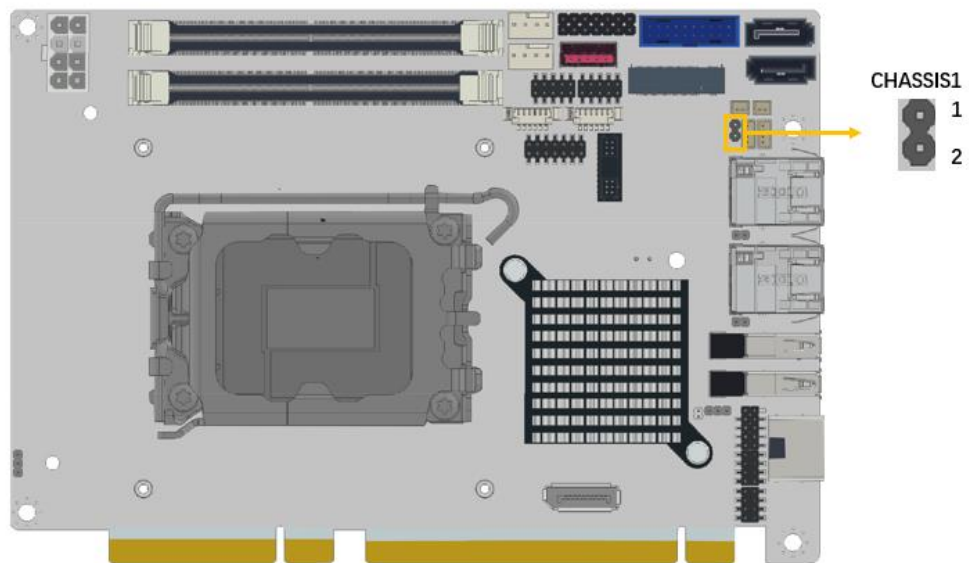

Figure 3-10: Chassis Intrusion Connector Location
- CN Location:** See Figure 3-10